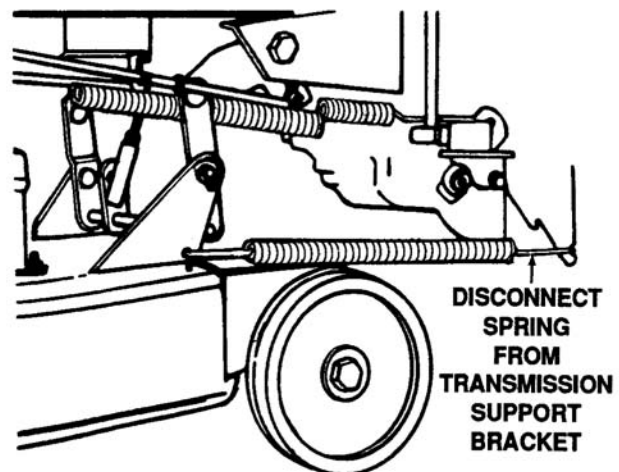

Figure 4-45. Transmission Support Bracket
- c. Disconnect the spring from the transmission support bracket using a spring puller. See Figure 4-45.